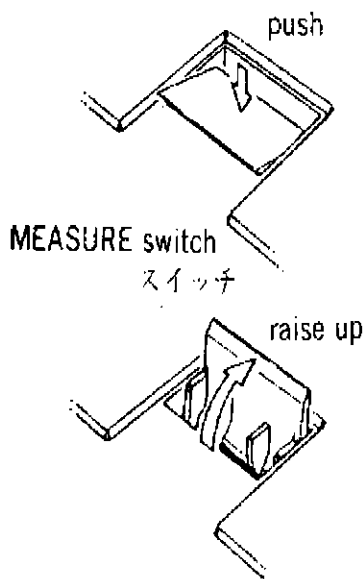

図1 Fig. 1
- ① Insert the red test probe into the LINE terminal and the black test probe into the EARTH terminal.
- ② Set the function switch to MΩ.
- ③ Select the measurement voltage to be applied by using the voltage mode switch (setting this to 250, 500 or 1000V).
- ④ Make contact with the device under measurement using the probes and press the MEASURE switch, releasing the switch when the display value has stabilized to hold the measured value on the display for easy reading.
- ⑤ When making long-term measurements, lock the MEASURE switch in the upper position. (see Fig.1)
- ⑥ When reading the display in dark locations, press the LIGHT switch. This will turn on the LCD back illumination for approximately eight seconds.
- ① Connect the probe to the LINE terminal and lock the MEASURE switch in the upper position (see Fig.1).
- ② M Ω measurement will be performed only when the probe switch is pressed.
- ③ With the switch set to OFF, the measured value is held in the display.